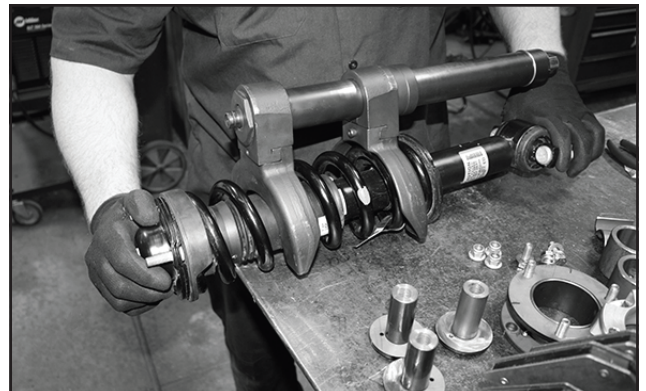

FIGURE 12 - STEP 12
12. Using a coil spring compressor. Compress the coil just enough to rotate the top cap 60 degrees clockwise (looking at the top of the strut). **(FIGURE 12).**